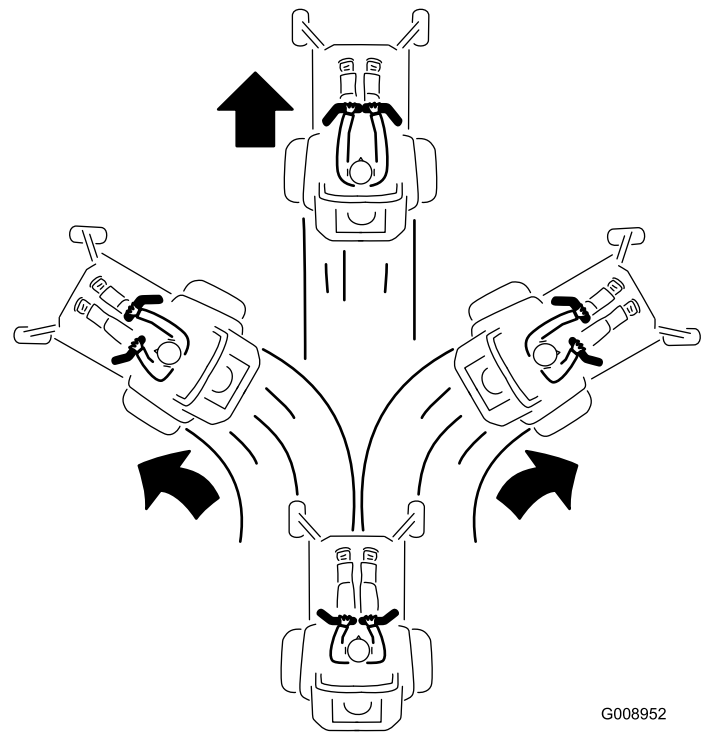

Figure 24
3. To go forward, slowly push the motion-control levers forward (Figure 24).